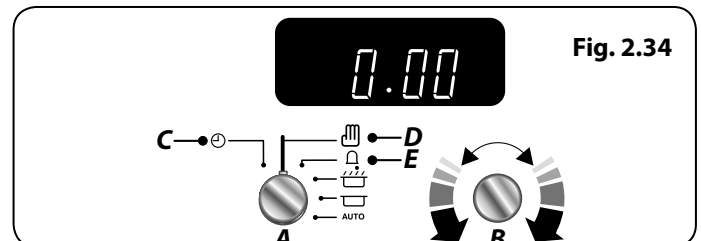

Fig. 2.34
- I. Turn the **Adjusting (B)** knob counter-clockwise or clockwise (**Fig. 2.34**).
- II. Turn either the **Timer (A)** knob to the **Clock (C)** or to the **Minute Minder (E)** setting. Return to **Manual (D)** for normal cooking mode (**Fig. 2.34**).